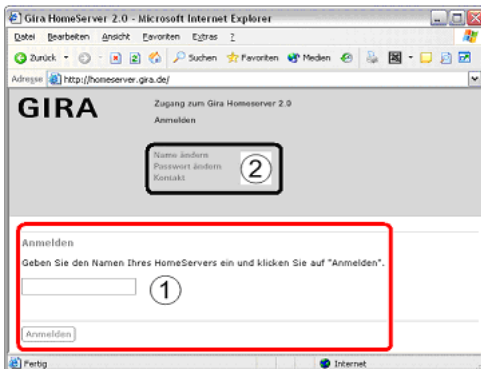

Fig 4.1: Start page of the portal (access via http/HTML).
- Enter <http://homeserver.gira.de> in the address line of your browser. A start page appears (see Figure 4.1). If you want to access via WAP then enter the following line: <http://homeserver.gira.de/hswap.wml>.